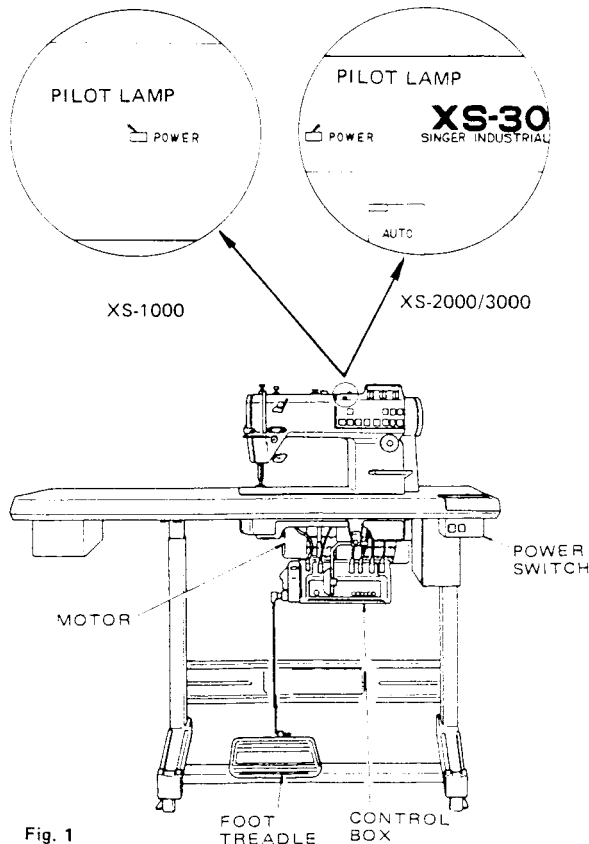

Fig. 1
- Turn off the power switch and make sure the pilot lamp is off before connecting or disconnecting the connectors to the control box. (Fig. 1)